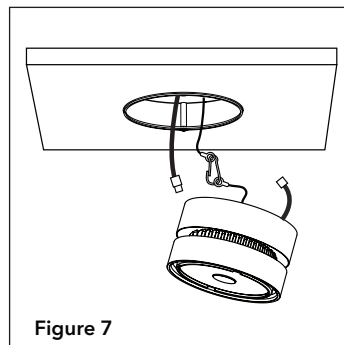

Figure 7
Step 7. Attach safety harness from mud ring to luminaire with carabiner clip (Fig. 7).